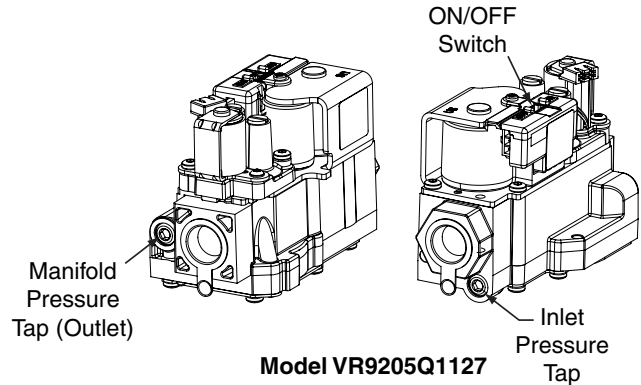
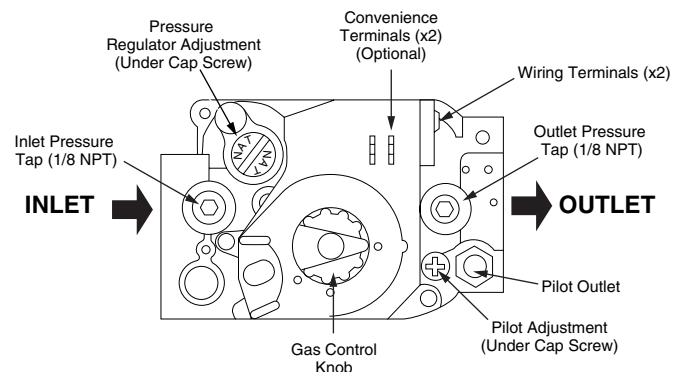
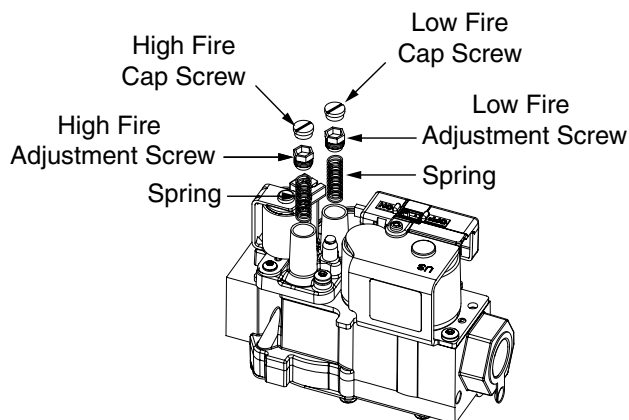
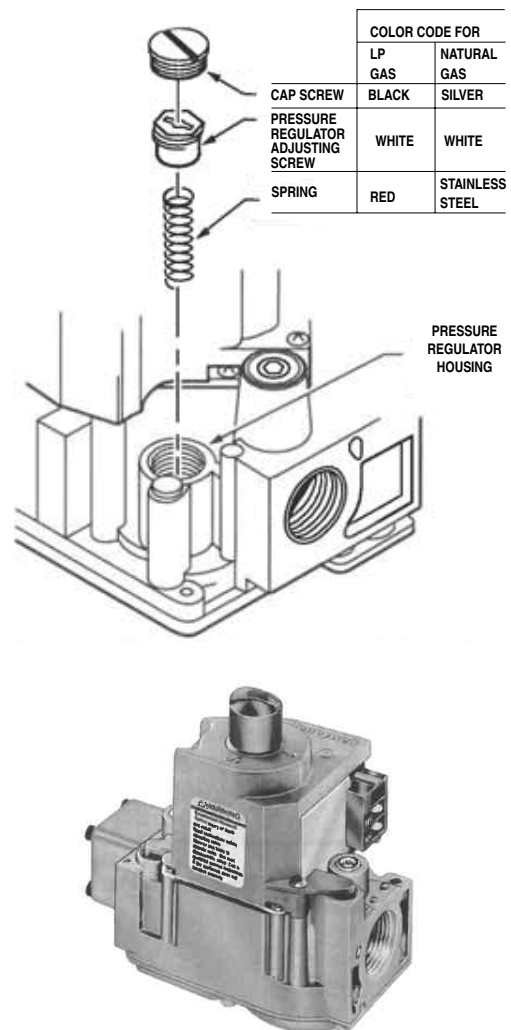

Figure 2. Inlet and Manifold Pressure Taps
Figure 3. Gas Valve Top View
Figure 4. Gas Valve Conversion
Figure 5. LP and Natural Gas Conversion for Honeywell VR8305 Gas Valve
5. Move the gas valve ON/OFF knob to the OFF position (see Figure 2).
4. Move the gas valve lever/switch/knob to the ON position (see Figure 2). **NOTE:** The lever/knob must be moved to the end of its range of motion to insure the valve is completely open. Use only your hand to push in or turn the gas control valve. Never use tools.
3. Using a 3/16-inch Allen wrench, remove the manifold pressure tap plug located on the outlet side of the gas valve (see Figure 2, Figure 3, Figure 4, and Figure 5).
2. Remove the regulator capscrew and pressure regulator adjusting screw (see Figure 3 and Figure 5).
4. Insert the replacement spring with tapered end down (see Figure 5).